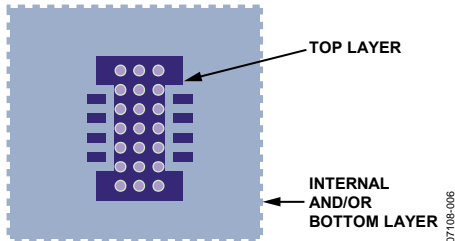

Figure 4. Heat Sink Layout
1. Place at least nine vias on the solder pad for the thermal pad of the amplifier for proper conduction of heat to the opposite side of the board. The outer diameter of the vias should be 0.5 mm and the inner diameter should be 0.25 mm to 0.3 mm. Use a PCB area of at least 2 cm2 equivalent area on the opposite side of the layer of the amplifier chip as a heat sink. Also, extend the ground pad (for the thermal pad) as much as possible on the amplifier side of the PCB as a heat sink (see Figure 4). If internal layers are available, allocate a certain area as a heat sink; make sure to connect the vias conducting the heat to the internal layers.